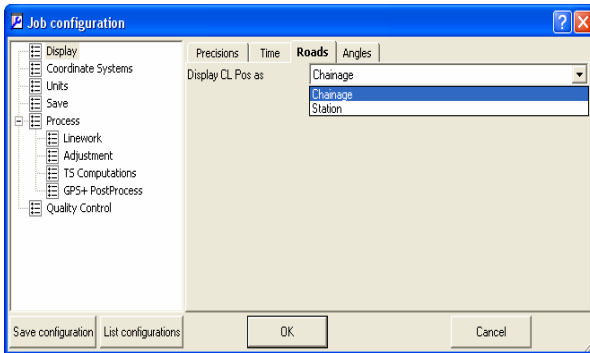

Figure 2-13. Job Configuration – Roads Tab
- The *Roads* tab (Figure 2-13) sets the type of number to use for the centerline position.